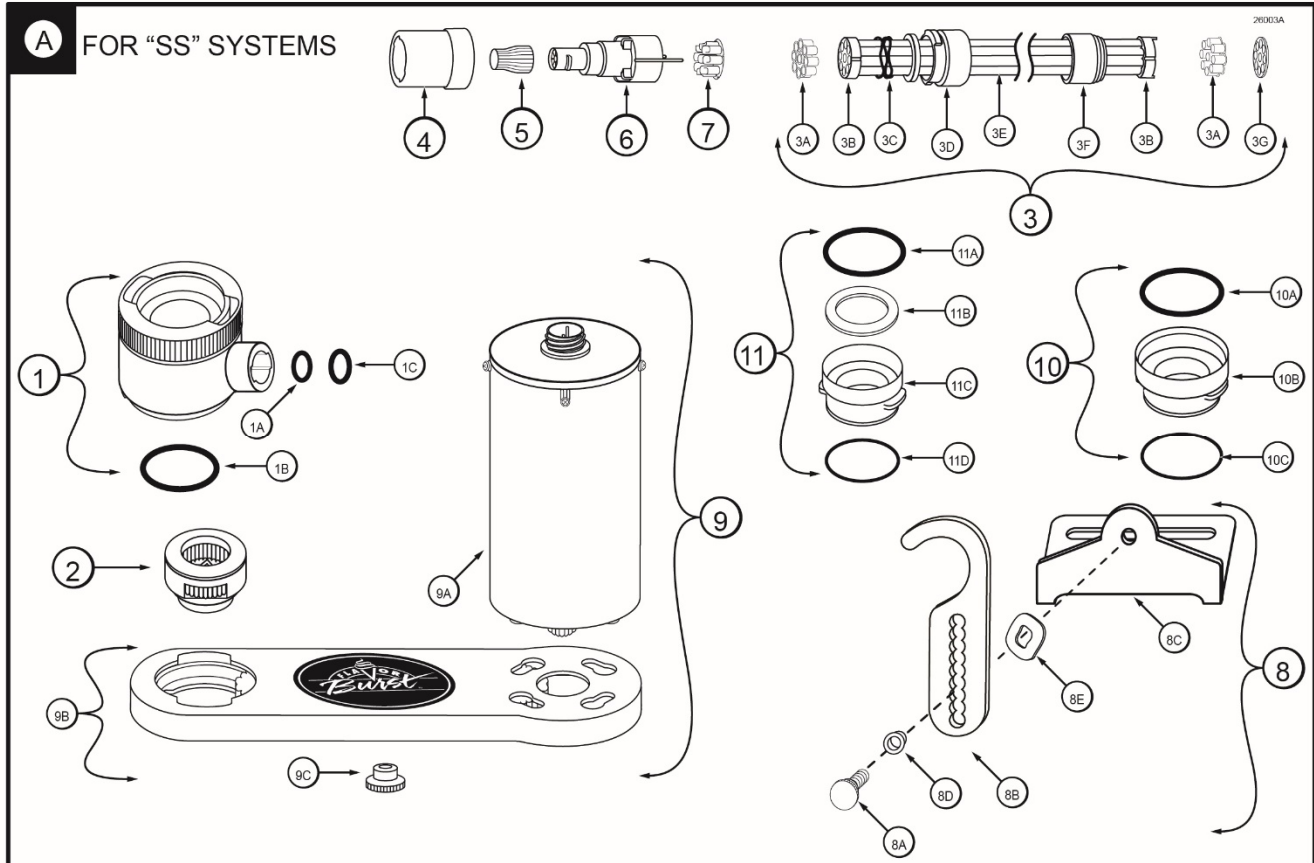

Figure 4A
**“SS” Injector Assembly and Related Parts (See Figure 4A)**